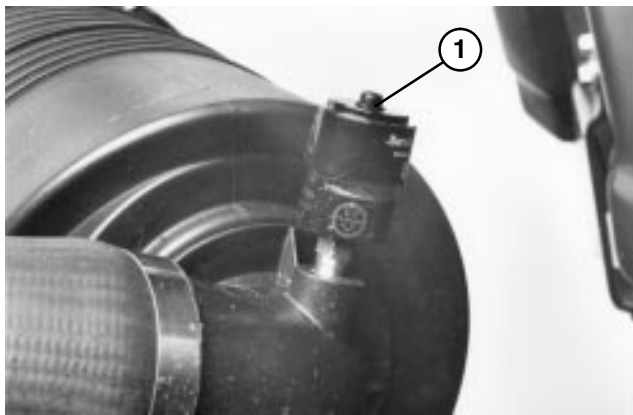

Figure 38
2. Service the air cleaner filters when ever air cleaner indicator (Fig. 38) shows red or every 400 hours (more frequently in extreme dusty or dirty conditions). Do not over service air filter.
8. Reset indicator (Fig. 38) if showing red.